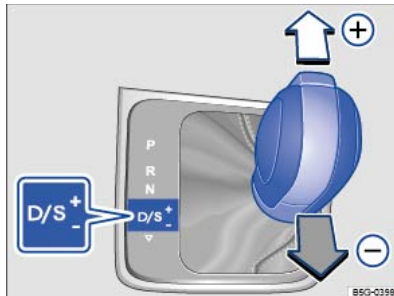

Fig. 124 Selector lever in Tiptronic position (left-hand drive). The controls are mirrored for right-hand drive vehicles.
- Gently push the selector lever forwards ⊕ or back ⊖ to shift gear up or down ⇒ *Fig. 124*.